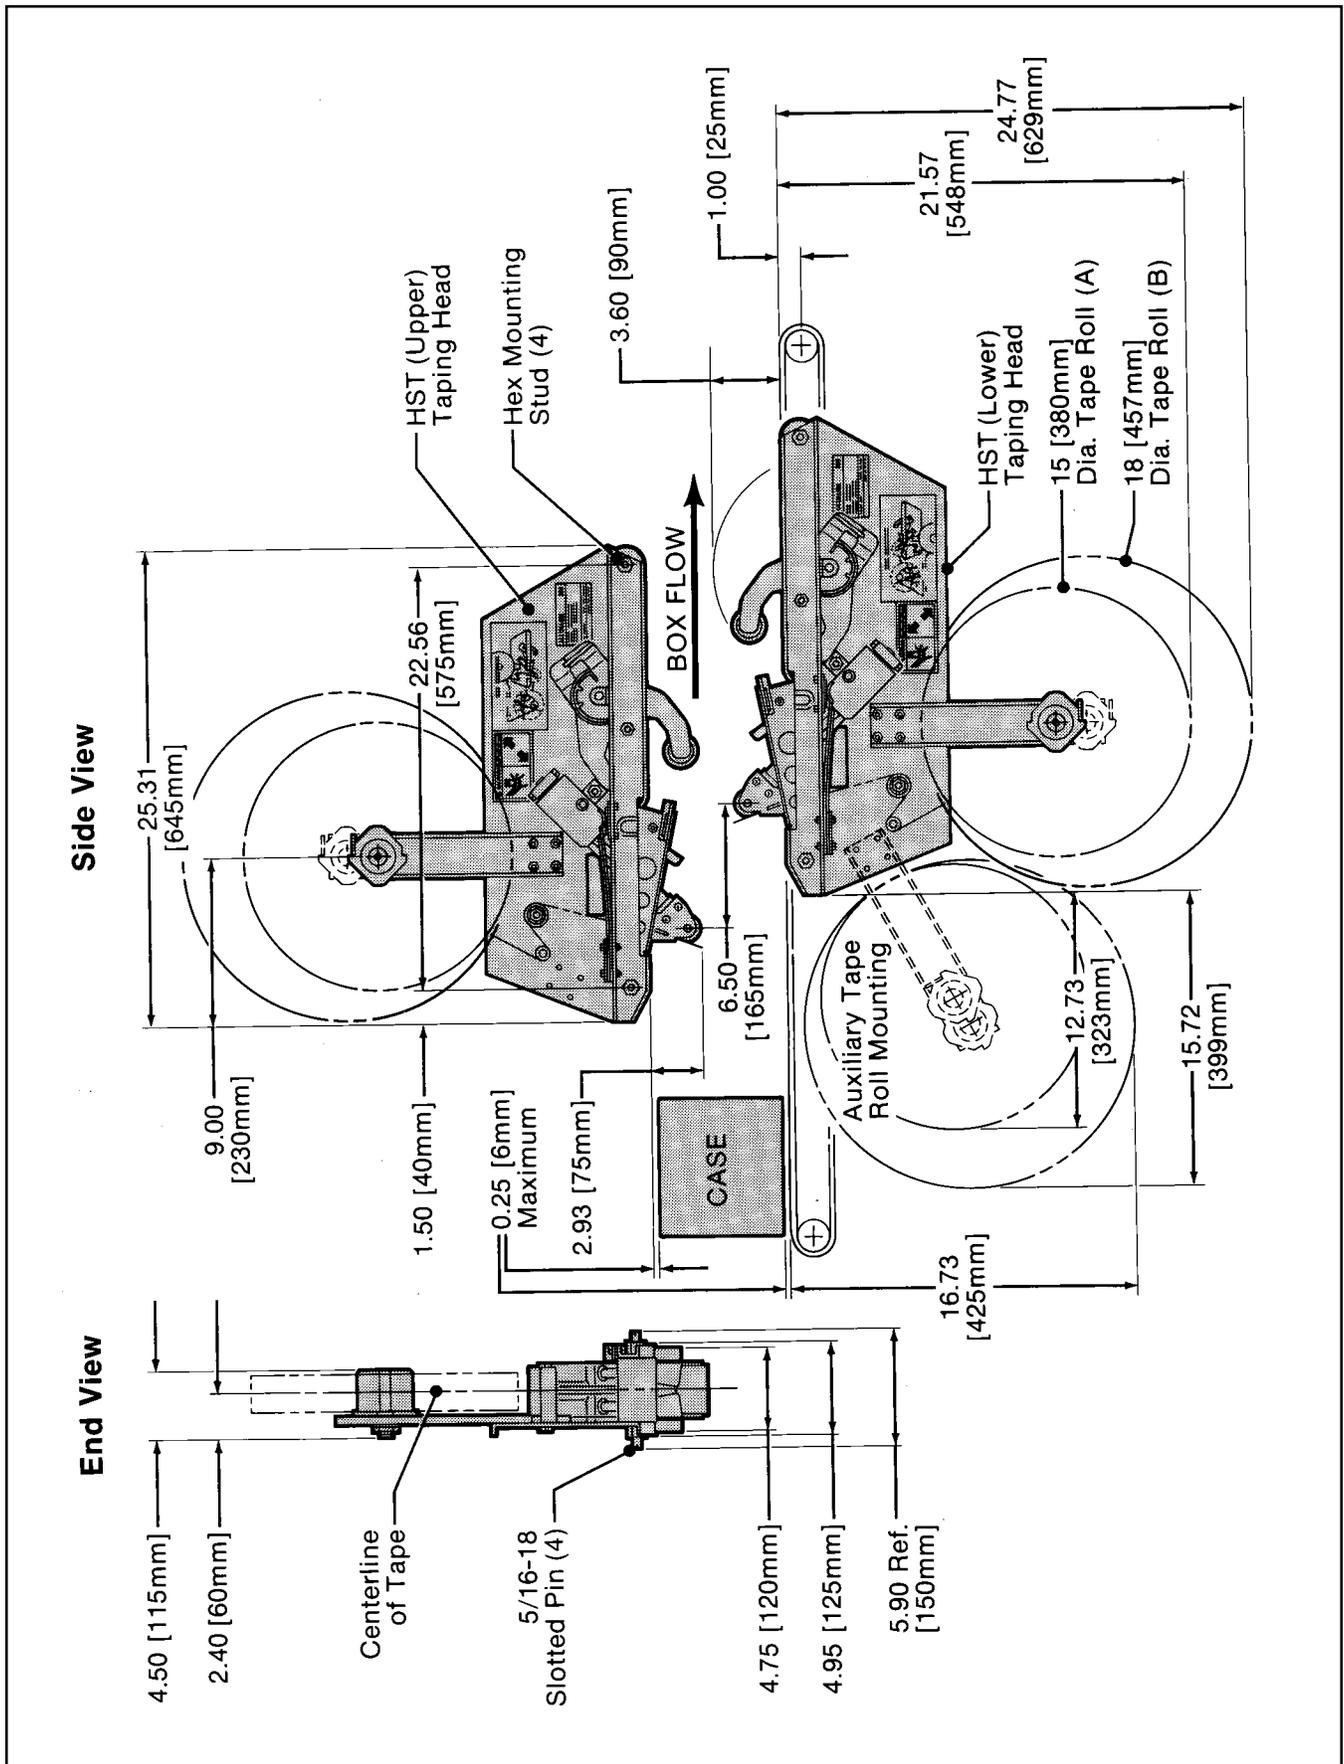

Figure 2-1 – Taping Head Assemblies – Typical Mounting Dimensions
The taping heads can be used to replace existing or custom made machinery. It can be mounted for top taping or bottom taping. Refer to box size specifications on page 5 and Figure 2-1 on page 6, for the following points in making such installations:
3. Figure 2-1 illustrates the typical mounting relationship for opposing taping head assemblies to allow taping of case heights down to 5.4 inches [135 mm]. **To tape case heights down to 4 inches [100 mm], the taping head assemblies must be completely staggered so only one tape seal is being applied at one time.**
4. Four (4) mounting studs are provided on the taping head side plates but special installations may require alternate means for mounting.
Refer to Figure 2-1 for mounting dimensions.